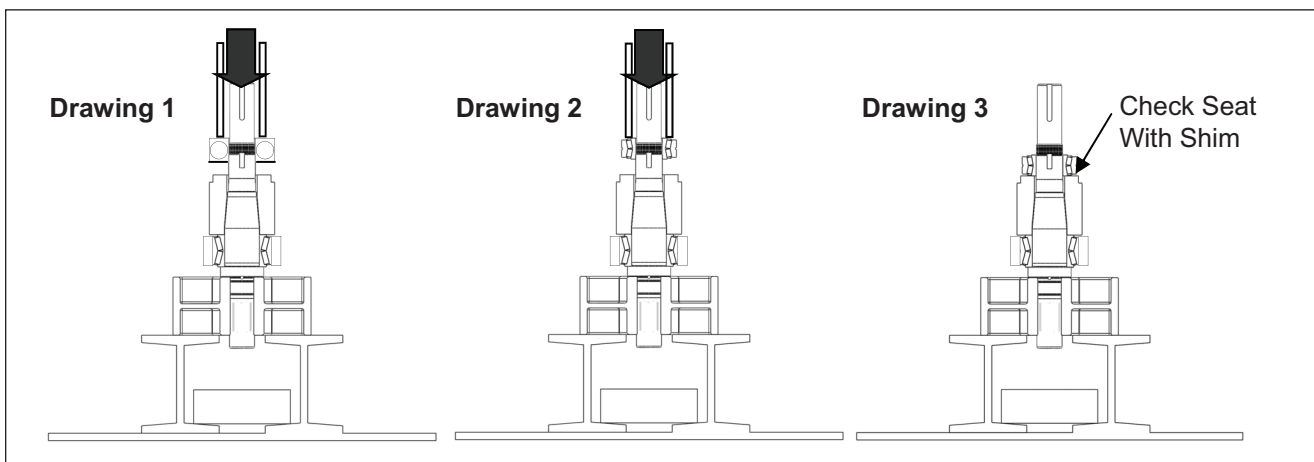

Figure 37. Pressing Rear Bearing onto Shaft
- For pump models with single ball bearings apply a light coat of lubricant on the shaft. Open the new rear bearing assembly and place it over the shaft above the bearing spacer with the shielded side of the bearing facing the spacer (*Figure 37, Drawing 1*). Press the bearing on by pressing only on the inner race.
- For pump models with tapered roller bearings, apply a light coat of lubricant on the shaft. Open the new rear bearing assembly and do not interchange any parts. Place the rear bearing over the shaft above the bearing spacer (*Figure 37, Drawing 2*). Reference Table 5 for the required force (in tons) needed to press the bearing onto the shaft. Using a sleeve that rests on the inner cone of the bearing and rides over the shaft, press the bearing on until it seats against the spacer.
Make sure the bearing is rested on the bearing spacer using a shim (*Figure 37, Drawing 3*).